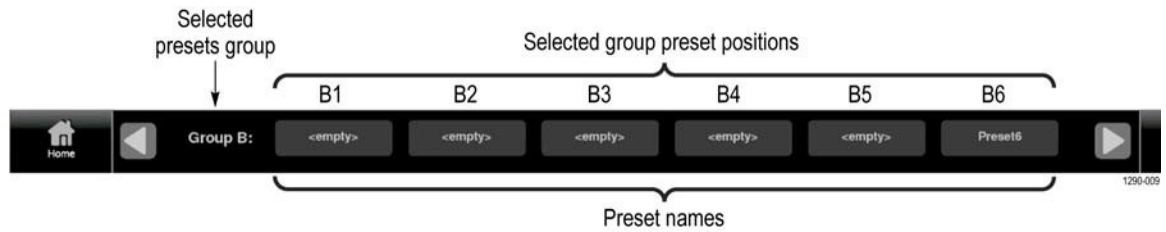

Figure 70: Preset selection controls (Group B shown)
- a. Touch the **Presets** icon () to open the Preset selection controls at the bottom of the PRISM display. (See Figure 70.)